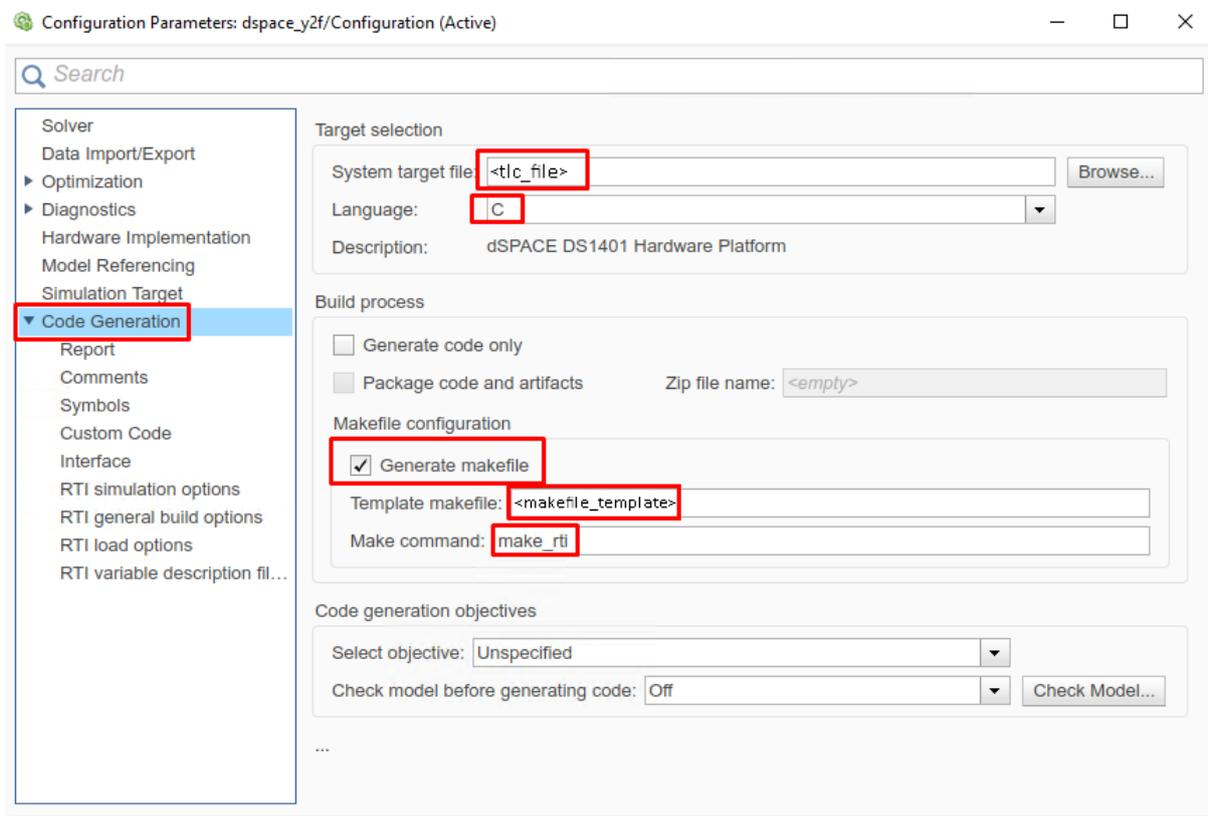

Figure 13.23: Set the Simulink code generation options.
- (Figure 13.23) In the “Code Generation/RTI general build options” tab, set the options (for <tlc_file> and <makefile_template> see *Simulink Model HW Target Configuration*):